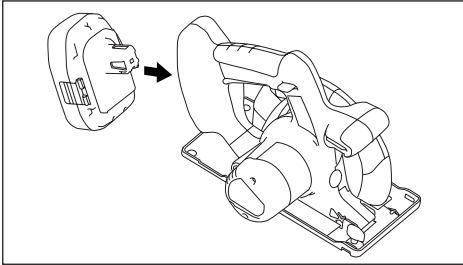

Fig.2
1. To insert the battery pack: (See Fig.2)